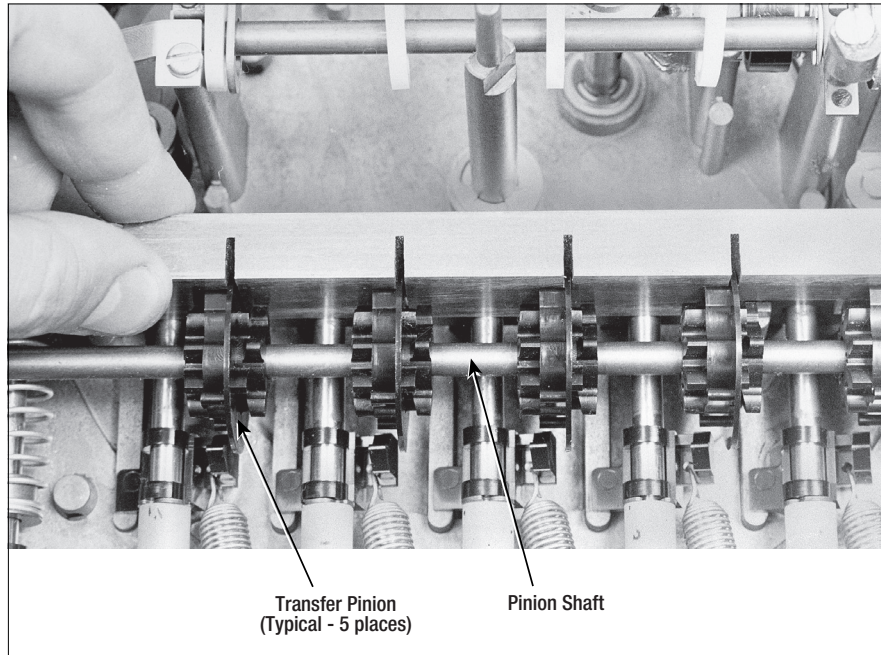

Figure 12. Aligning Transfer Pinions on Pinion Shaft
1. Hold alignment tool behind pinion shaft with notched end of tool on right side facing down (Figure 12).
2. Align transfer pinions on pinion shaft to engage with corresponding slots in alignment tool (Figure 12). Then, seat alignment tool in place.